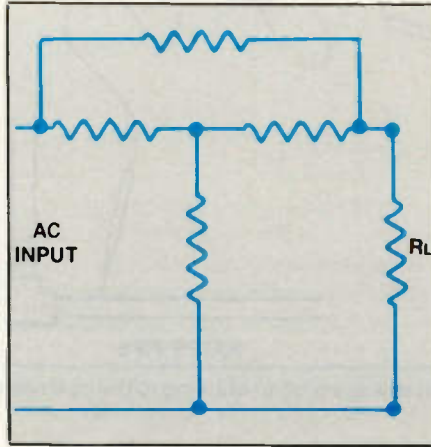

Figure 2.
Before beginning to service any TV chassis, plug it into an isolation transformer (see Figure 2). Make sure no grounded test instruments are connected to the chassis while it is connected to the power line unless it's connected through an isolation transformer. Failure to observe this precaution may cause damage to the test equipment and the TV chassis, as well as possible injury to the technician. Remember, some of these new TV chassis have both a hot and cold grounded chassis.
Figure 2. Always, use a variable isolation transformer when working on transformer like TV chassis. If you don't, besides damaging test equipment, you can destroy several parts in the TV set.
6. Is the following statement correct? The bridged-T circuit of Figure 2 is a form of a Wheatstone Bridge circuit.